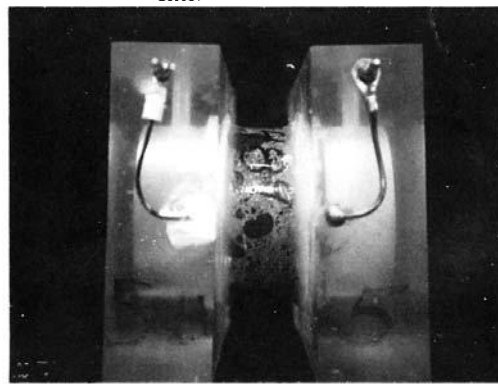

FIG. 4 Specimen Ready for Test
10.2.5 Repeat steps 10.2.2 (or 10.2.3) and 10.2.4 on second half of cell. (Specimen in applied voltage cell now appears as shown in Fig. 4.)